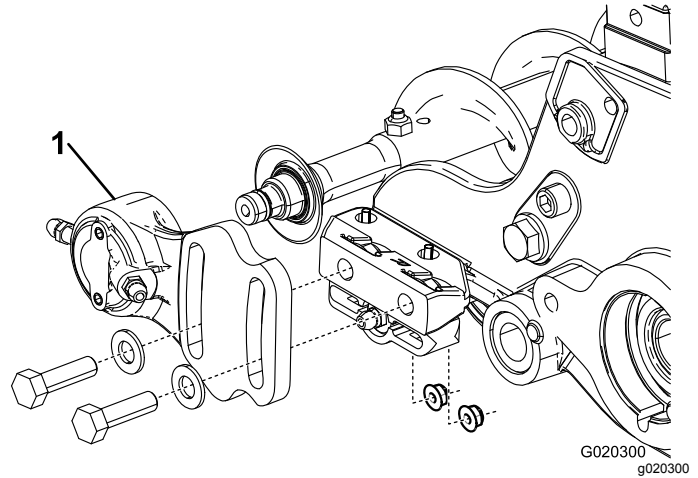
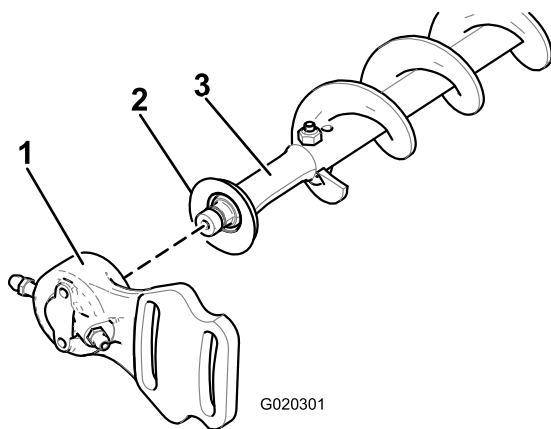

Figure 30
Figure 31
1. If a roller brush is installed on the cutting unit, remove the 2 bolts, washers and nuts securing the non-drive bearing housing to the bearing housing mounting bracket (Figure 30) and (Figure 31).
2. Slide the non-drive bearing housing and excluder seal off the brush shaft (Figure 31).
9. Install the excluder seal and the non drive bearing housing onto the brush shaft (Figure 31).